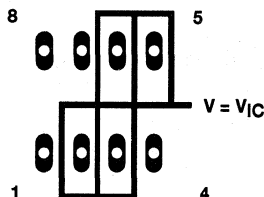
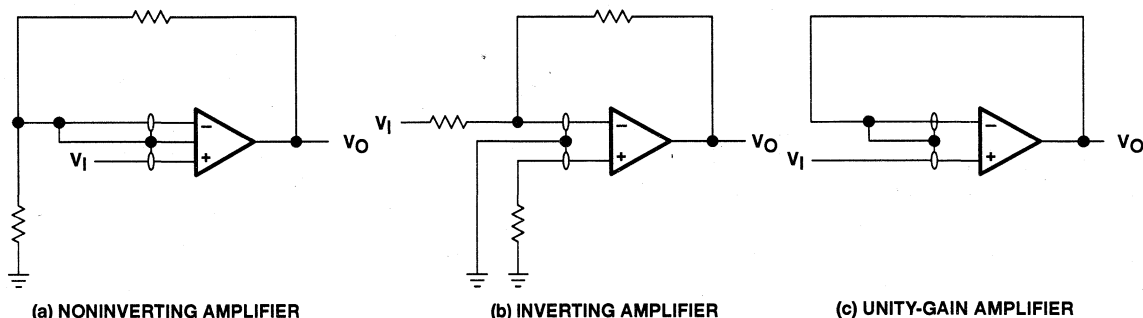

Figure 33. Isolation Metal Around Device Inputs (P package)
Figure 37. Guard-Ring Schemes
- Isolate the device from other potential leakage sources. Use a grounded shield around and between the device inputs (see Figure 33). Leakages that would otherwise flow to the inputs are shunted away.
Because of the extremely high input impedance and resulting low bias-current requirements, the TLV2342 is well suited for low-level signal processing; however, leakage currents on printed-circuit boards and sockets can easily exceed bias-current requirements and cause a degradation in device performance. It is good practice to include guard rings around inputs (similar to those of Figure 33 in the Parameter Measurement Information section). These guards should be driven from a low-impedance source at the same voltage level as the common-mode input (see Figure 37).